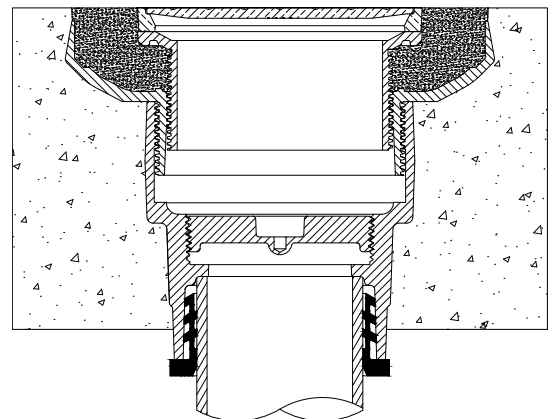

Fig. 10S
10. Fill in rough-in adapter with cement or grout. Ensure to completely fill in around entire head assembly flush with finished floor. Remove protective label once construction is complete. See Fig. 10S